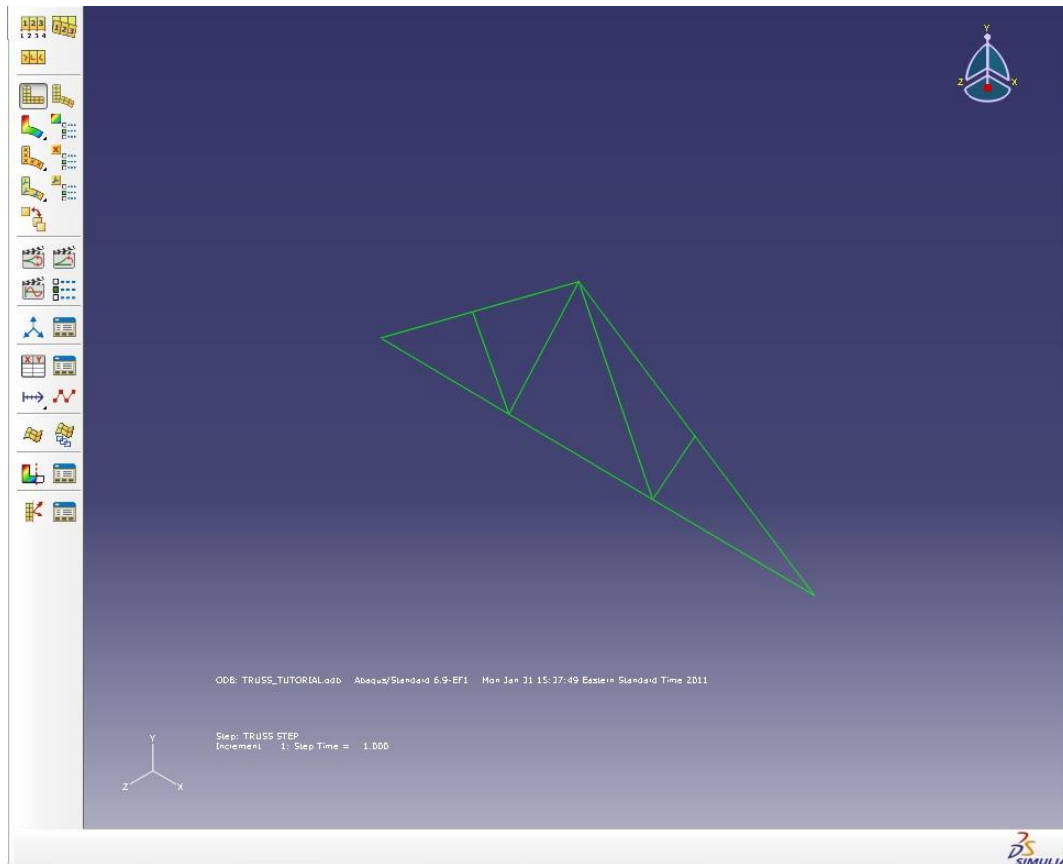

Figure 34. Analysis Results Isometric View
- If this selection was done correctly, the model should turn to a green color and the truss will have rotated to an isometric view (Figure 34).